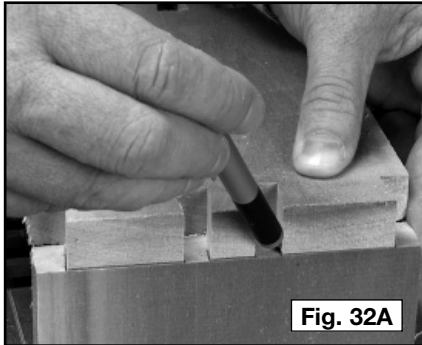

Fig. 32A
- Step 1** - Hold the pin board against the tail board and mark the edges of the tails on the end of the pin board (Fig. 32A).